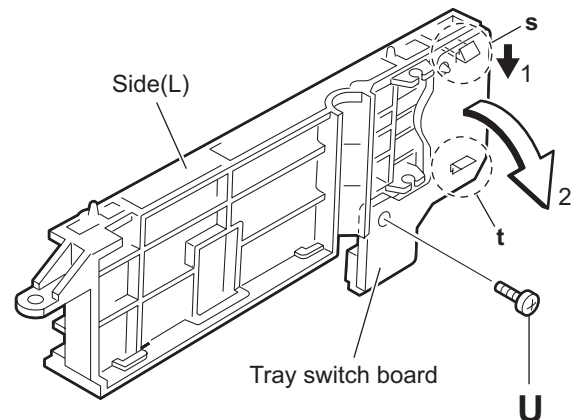

Fig.21
- (4) Remove the screw **U** attaching the tray switch board to the side (L). (See Fig.21.)
- (5) Release the joint tab **s** of the side (L) in the direction of the arrow 1 and release the joint tab **t** while removing the tray switch board in the direction of the arrow 2. (See Fig.21.)